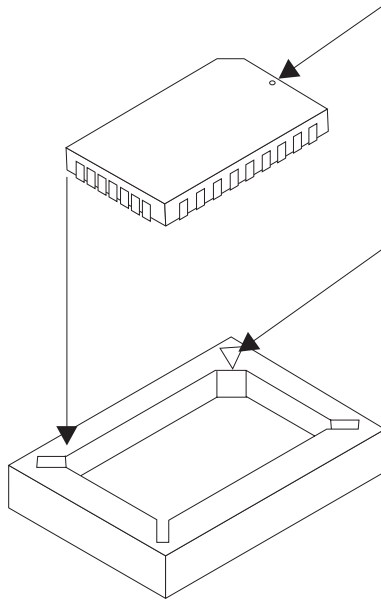

Figure 3-2. Match the Notches
- 3 The Flash module has one corner that is angled. Align the angled corner with the arrow, as illustrated in Figure 3-2.